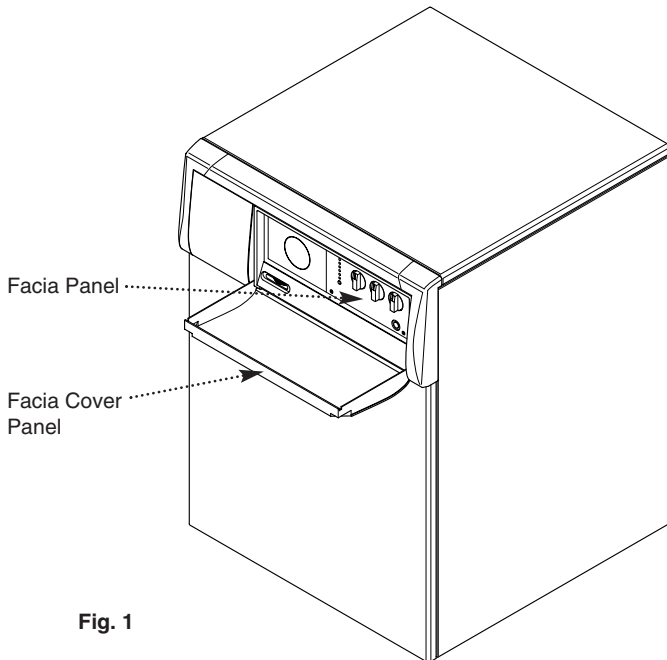

Fig. 1
3. The boiler is set to provide a maximum output of 28.0 kW. This modulates in both Central Heating and Domestic Hot Water modes depending on the setting of the temperature controls, the water temperature in the boiler and, in the case of Domestic Hot Water mode, the temperature of the stored water. See Section 3.1 for full details. The controls are behind the facia cover panel (Fig. 1).